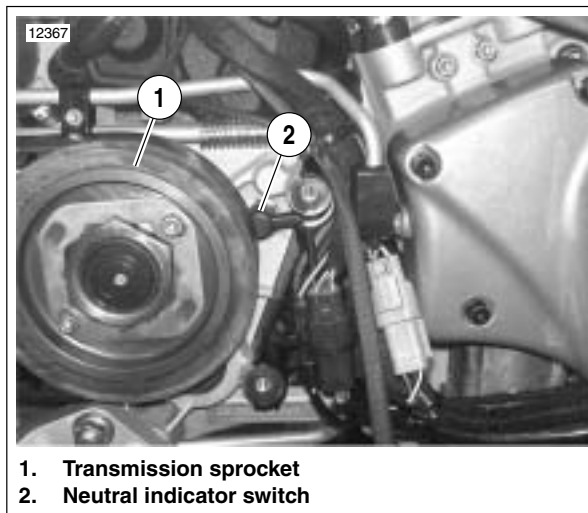

Figure 7-72. Neutral Indicator Switch Location
See Figure 7-72. The neutral indicator switch (2) is threaded into the transmission portion of the right crankcase half. It is immediately forward of the transmission sprocket (1). The sprocket cover must be removed to test the switch.
2. See Figure 7-72. Disconnect wire lead from neutral indicator switch (2). See 7.25 SPROCKET COVER WIRING.